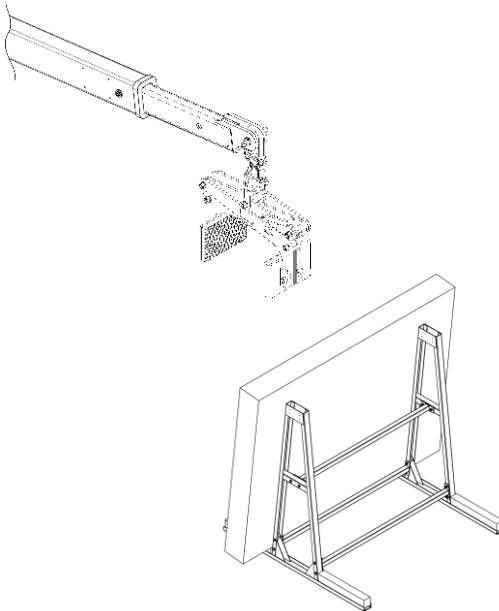

Figure 2.1
- Move the Clamp close to the slab to be lifted (Figure 2.1).